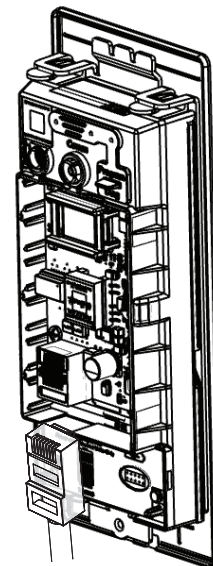

Fig. 15A
Important - before inserting PoE plug into PoE connector, apply dielectric grease to top of plug, covering the pin area (Fig. 15A).
1. Once controller is securely in place, connect PoE plug (RJ45 male) to female RJ45 port on controller board (Fig. 15A).